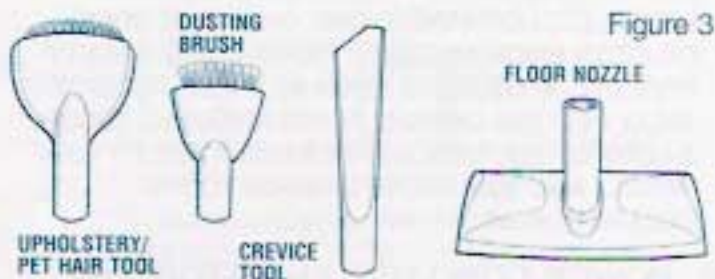

Figure 3
B. ON-BOARD ATTACHMENTS: (Figure 3)